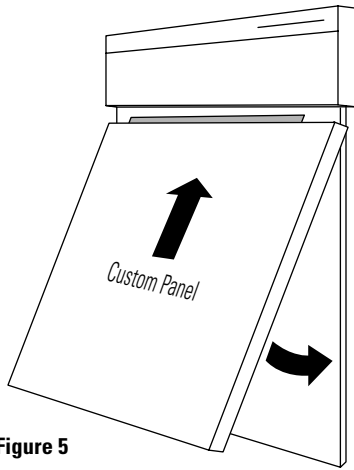

Figure 5
- Slide the panel assembly into the escutcheon lip and hold the panel in place (Figure 5).